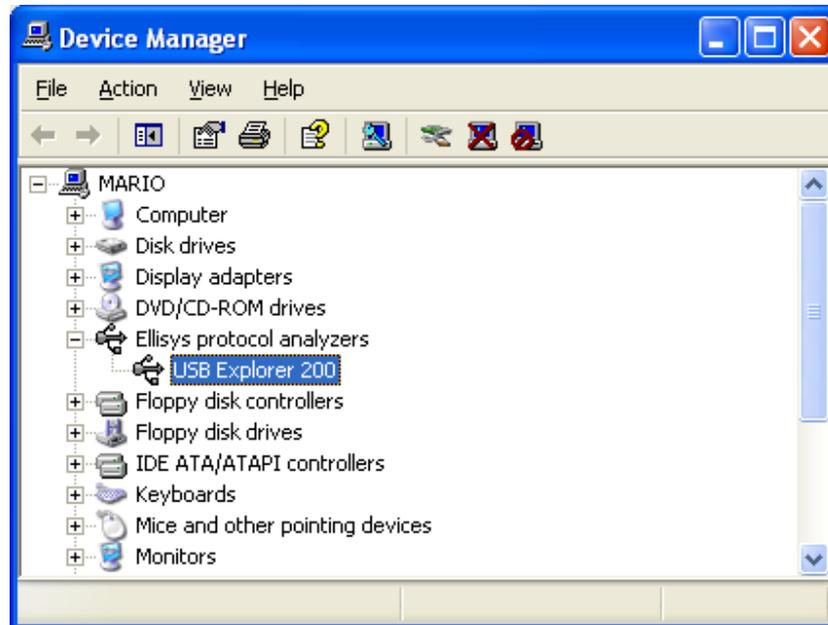

Figure 24 - Updating driver from the Device Manager
4. If you want to update an already-installed device driver, go to the Device Manager (Start | Control Panel | System icon | Hardware tab | Device Manager button). Open "Ellisys protocol analyzers" and right click on your analyzer. Select "Update Driver..." (see Figure 24).